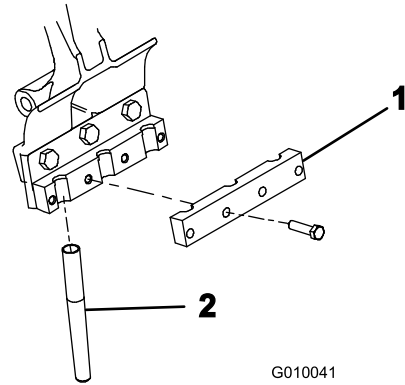

Figure 24
5. Loosely install a tine clamp to each tine holder (Figure 24) with 4 bolts (3/8 x 1-1/2 inches). Do not tighten the bolts.